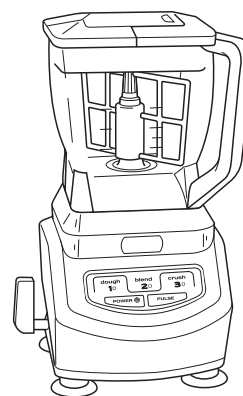
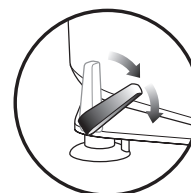

Fig. 12
Fig. 12a
- 1 Place the motor base on a clean, dry, level surface such as a counter or table top. (Fig. 12) Push the suction lever on the side of the base down to secure the suction feet to the surface. (Fig. 12a) If the suction feet have not totally adhered to the surface, press down slightly on the base to give the suction feet a better grip.
- 4 Add the ingredients and secure the bowl lid onto the bowl. (Fig. 12)